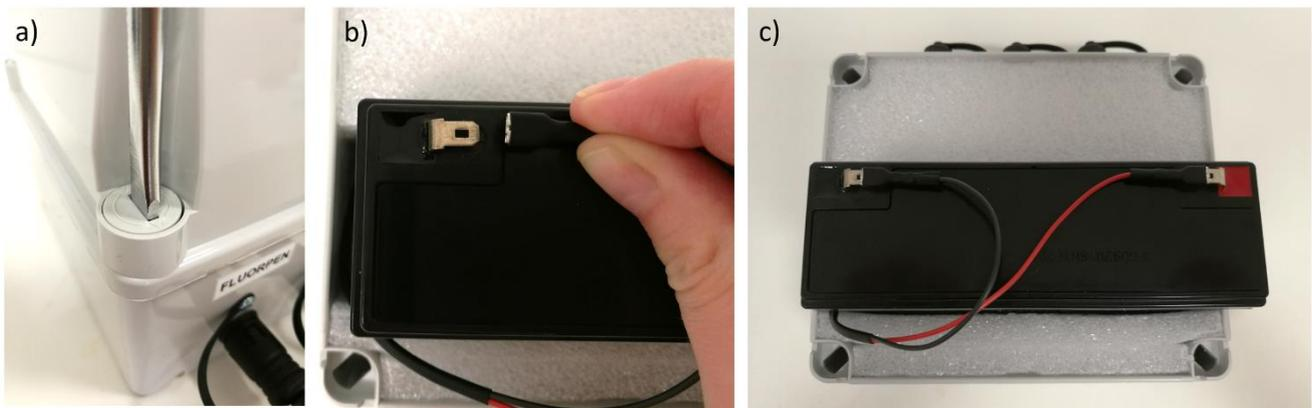

Fig. 34 Replacement of battery in a Standard Battery Pack.
3. Place new battery inside the casing, connect it with the cables – red cable with red and black cable with black marked connector (Fig. 34 b, c). Replace the cover.